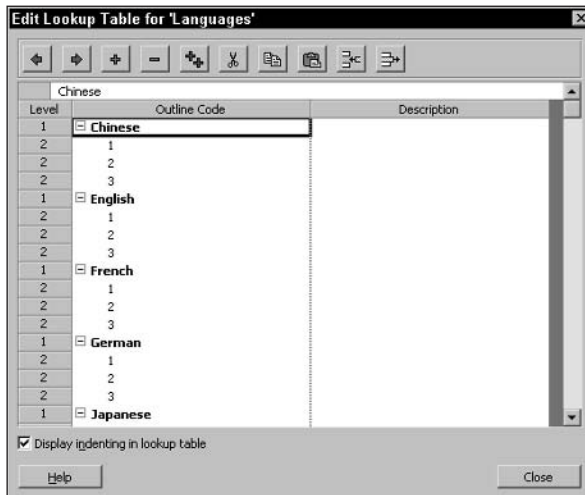

Figure 19-27: In the Lookup table, define the codes that you want to use.
11. Click the Edit Lookup Table button to display the Edit Lookup Table dialog box, as shown in Figure 19-27.